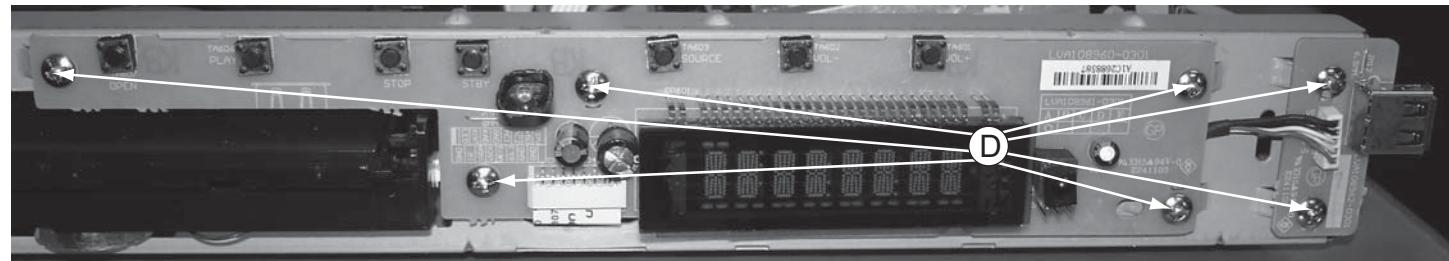

Figure 7
- 1) Loosen 7 screws "D" on the top of VFD+USB Board as shown in figure 7.